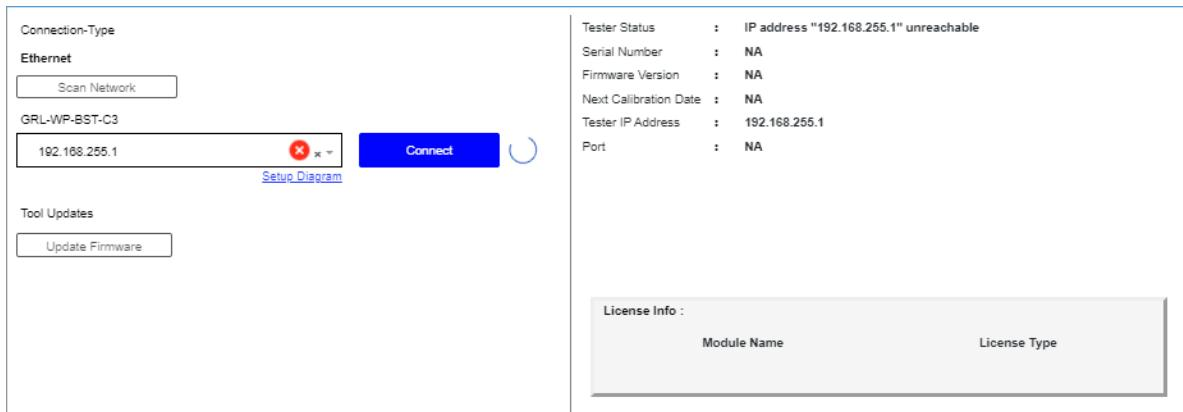

FIGURE 7.7: UPDATE GRL-C3 FIRMWARE– #4
- After the GRL-C3 tester hardware has rebooted, it will auto-establish connection with the Browser App (Figure 7.7 below).